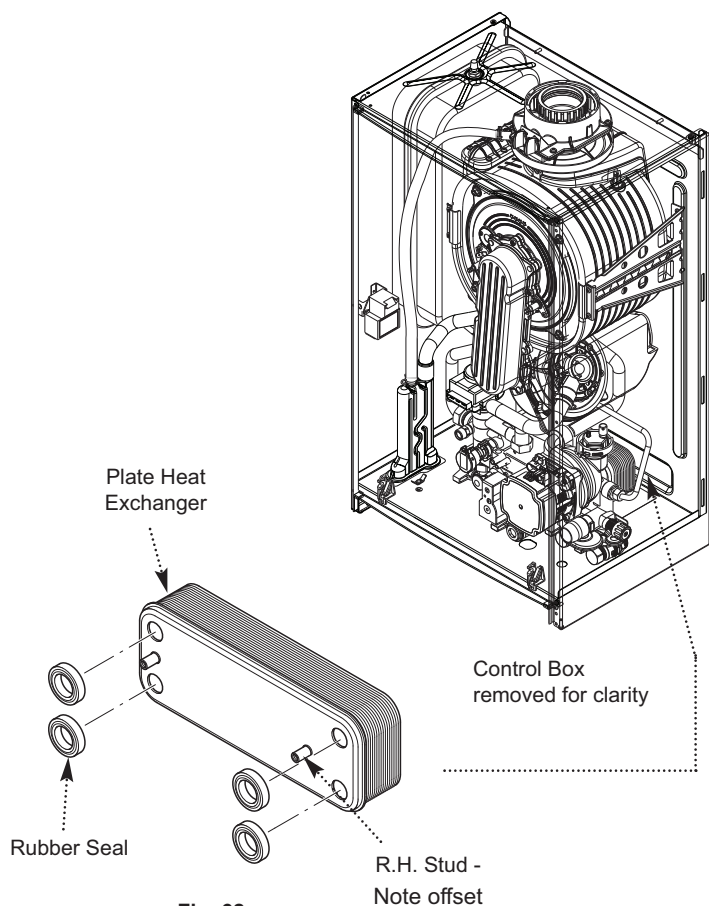

Fig. 62
10.3.16 Plate Heat Exchanger (Figs. 62 & 63)
7. When fitting the new heat exchanger note that the right hand location stud is offset towards the centre (Fig. 62).